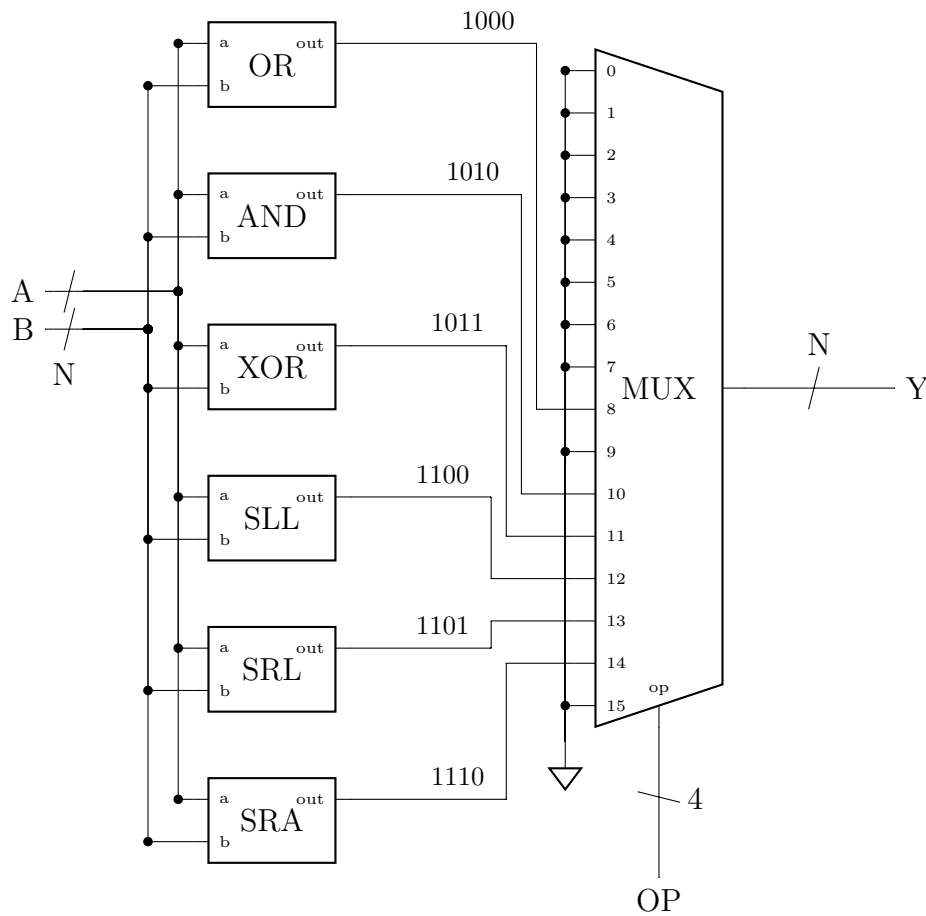

Figure 1: Layout of the N-bit ALU with six operations
Figure 1 shows a block diagram of the generic-sized input ALU N. The select signal (OP) is